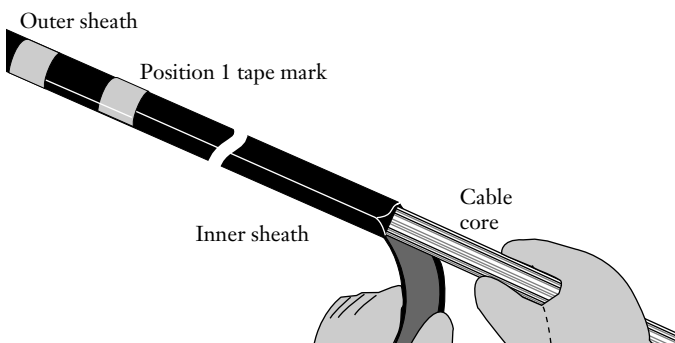

Figure 13
**5.21** Carefully separate the inner sheath from the yarn-covered cable core back to the Position 1 tape mark (Figure 13).